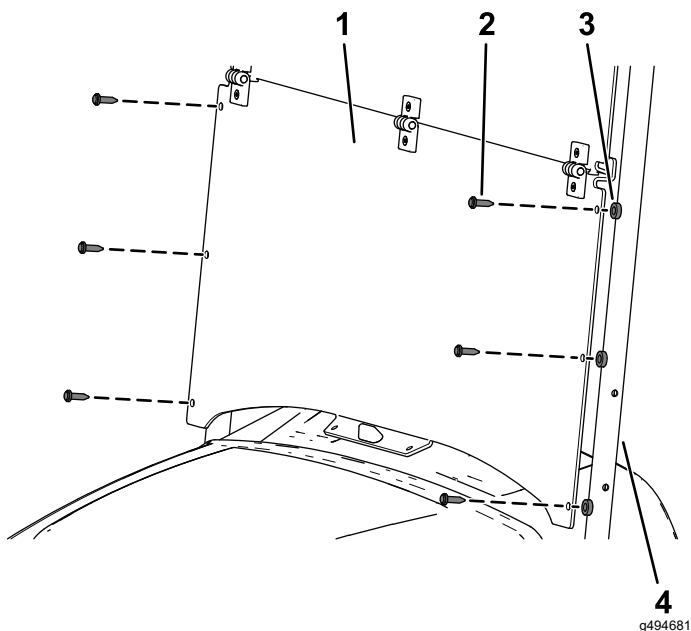

Figure 8
3. Align the holes in lower portion of the windshield with the holes in the canopy support tubes (Figure 8).
4. Secure the sides of the windshield to the canopy support tubes using 6 plastic spacers and 6 long plastic rivets (Figure 8).